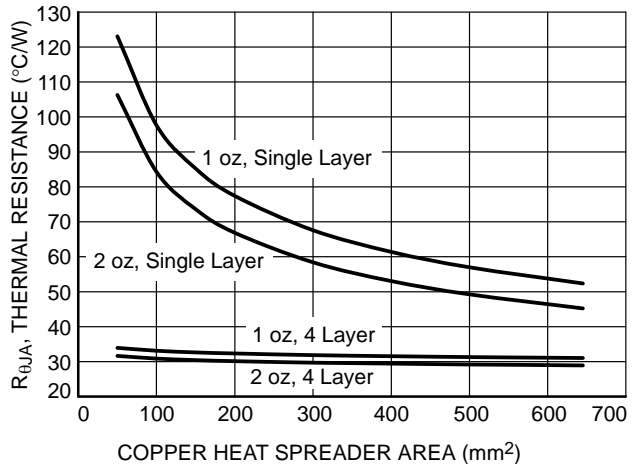

Figure 15. Thermal Resistance vs. PCB Copper Area
Since TJ is not recommended to exceed 150°C, then the device soldered on 645 mm2, 1 oz copper area, FR4 can dissipate up to 2.38 W when the ambient temperature (TA) is 25°C. See Figure 15 for RθJA versus PCB area. The power dissipated by the device can be calculated from the following equations: